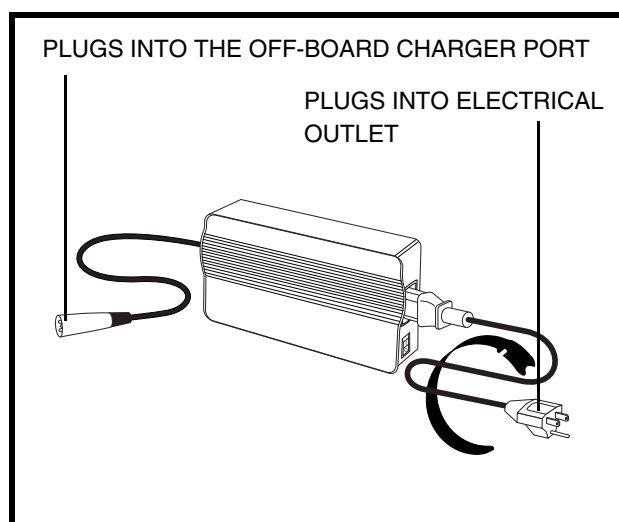

Figure 11A. Off-board Charger
4. Plug the 3-pin charger power lead into the off-board charger port. See figure 11A.